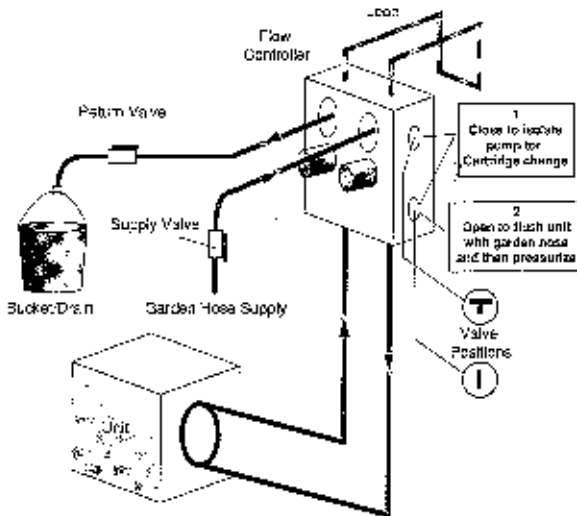

Figure 10 - Cartridge Replacement Procedure
First isolate the pump in question as in Figure 10. **Always disable power to the pumps** and remove pump power wiring if needed. Close valves as in Step 1 of Figure 10.
- Place garden hose supply and return on flush ports as shown in Figure 10 and open valves to flush through the unit portion of loop. When water flows clear, close return side to pressurize; finally, close the supply side valve. Close 3-way valves to operation position Figure 9E. The loop can also be refilled, using the complete procedure outlined for installation.